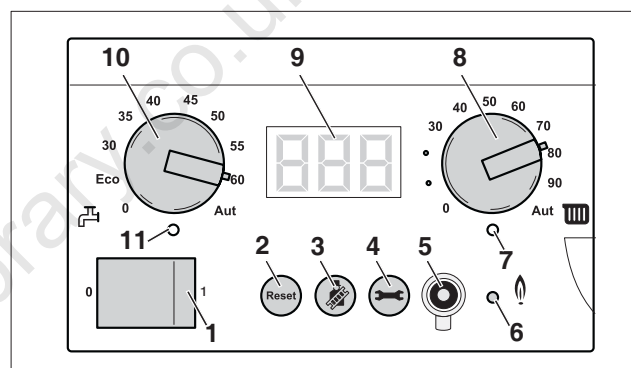

fig. 100 BC10 basic controller
- Switch off the heating system by pressing the mains switch of the Logamatic BC10 basic controller (fig. 100, **item 1**).
- Switch on the heating system by pressing the mains switch of the Logamatic BC10 basic controller (fig. 100, **item 1**).
- After the "Burner" LED (fig. 100, **item 6**) has lit up wait for one minute until the boiler is burning at part load.
- Press and hold the "Chimney sweep" button (fig. 100, **item 3**) (approx. two seconds), until the dot in the right-hand bottom corner of the display (fig. 100, **item 9**) appears. See also table 9, "Flue gas test", page 52.